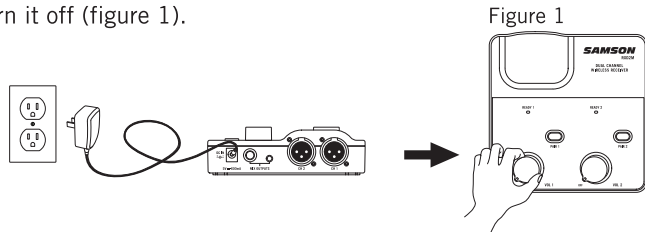

Figure 1
2. Connect the included power adapter to the RXD2M receiver before turning the power on. Turn the RXD2M on momentarily to confirm that it is receiving power, then turn it off (figure 1).